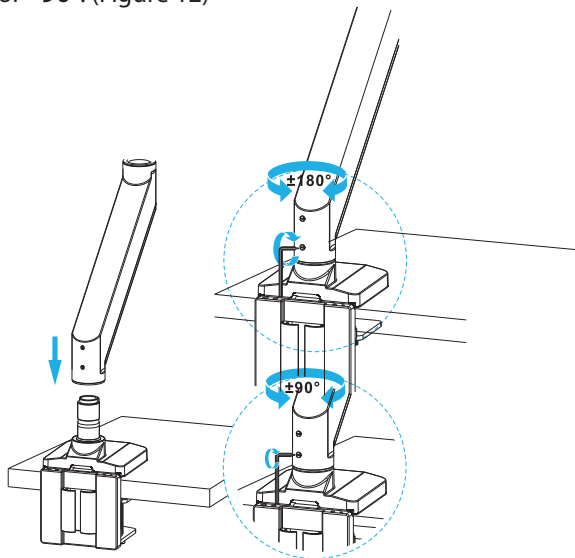

Figure 12
1. Insert the **Swivel Arm** onto the **Base**. (Figure 12)
2. Use the **3mm Hex Key with Flat Screwdriver** to tighten only the bottom **Screw** to allow the **Swivel Arm** to rotate + or - **180°** or tighten both **Screws** to allow the arm to rotate + or - **90°**. (Figure 12)